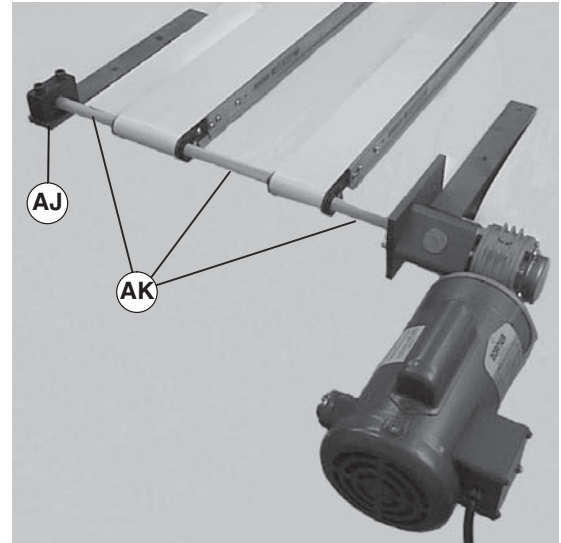

Figure 18
1. Disassemble support (Figure 18, item AJ) and remove hex shaft and shaft guard sections (AK).
4. Grease bearing with one (1) pump from a manual grease gun. Do not over-lubricate.
6. Re-assemble hex shaft with guards and support (Figure 18, item T).
1. Disassemble support (Figure 18, item AJ) and remove the hex shaft and shaft guard sections (AK).